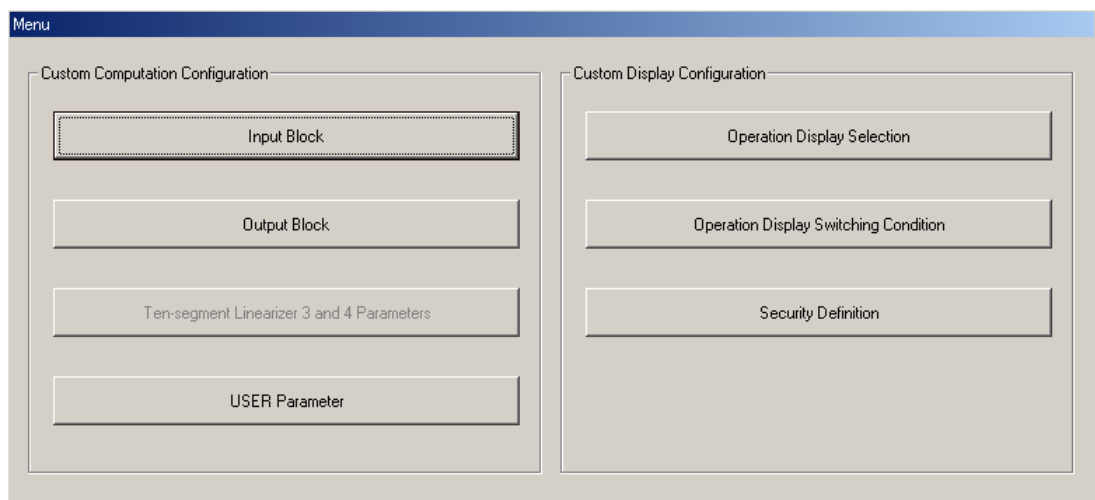
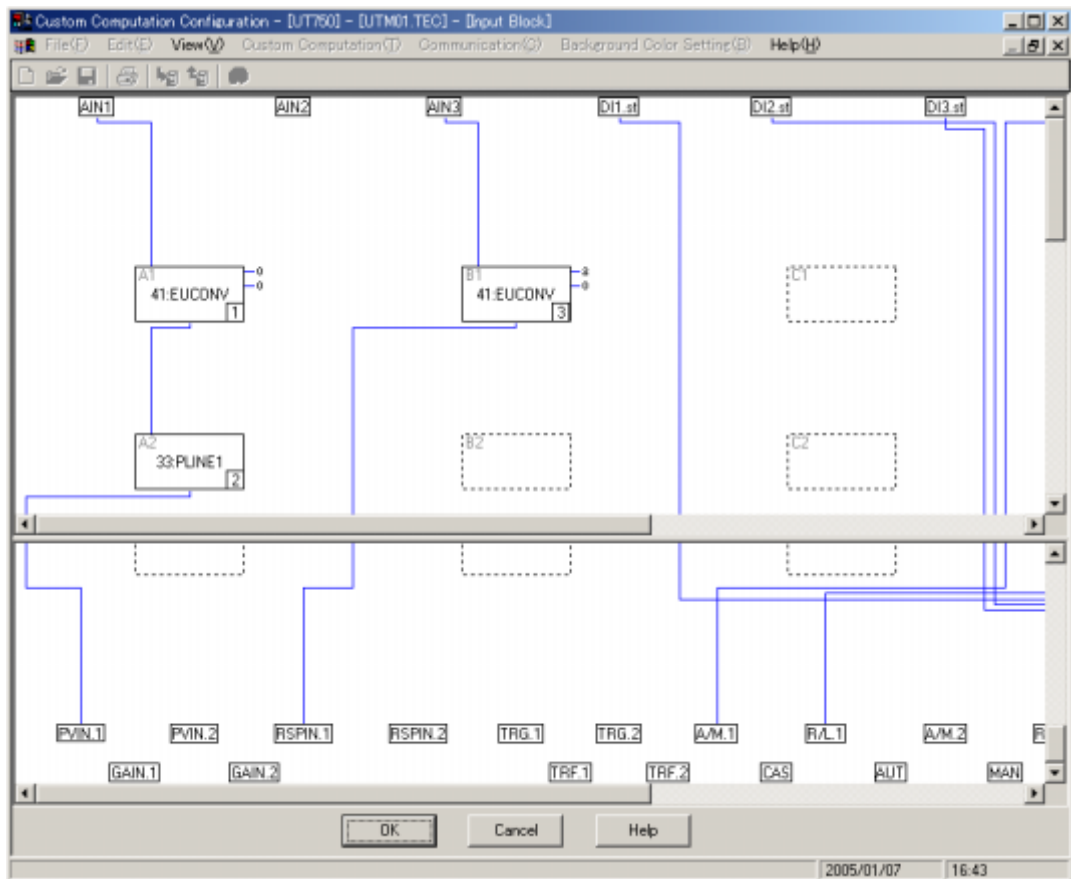

Figure 4.2.2 [Custom Computation Configuration Menu] Dialog Box
Figure 4.2.4 [Input Block] Dialog Box for Single-loop Control
Figure 4.2.2 shows the [Custom Computation Configuration Menu] dialog box used to configure custom computations.
- (1) In the [Custom Computation Configuration Menu] dialog box (Figure 4.2.2), click the <Input Block> button. The [Input Block] dialog box appears. Figure 4.2.4 illustrates the [Input Block] dialog box for single-loop control (Utm01.tec).